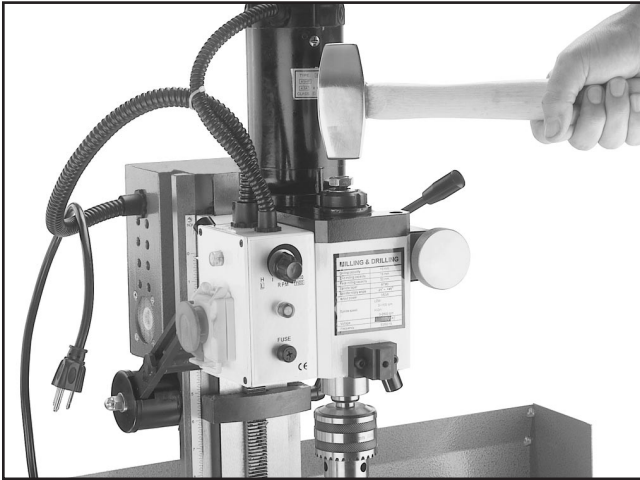

Figure 10. Tapping draw bolt loose with hammer.
5. Using a brass or wood hammer, tap the end of the draw nut as shown in **Figure 10**. The drill chuck should now become loose in the spindle.